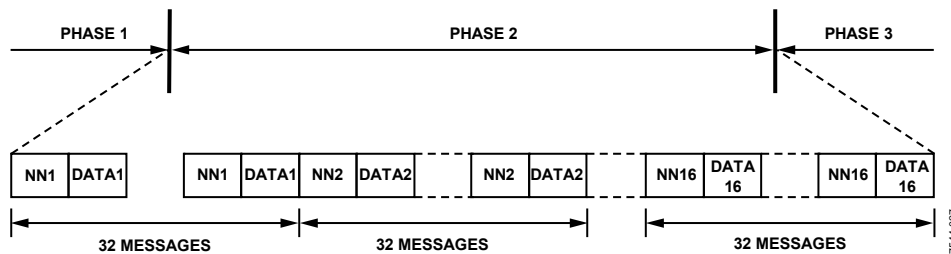

Figure 27. Mode 3 Device Data Transmission
In Phase 2 Mode 3, the 10-bit data codes, -512 (0x200) to -481 (0x21F), are used to transmit the device data. The data coding is shown in Table 34 and in Figure 27. One 4-bit nybble of the device data (encoded as one of 16 nybble codes) is transmitted in each 10-bit message. The number of the data nybble is identified by the preceding nybble number (NN) code as detailed in Table 33. This allows a total of $(16 \times 4) = 64$ unique bits of device data to be transmitted during Phase 2. Each message is repeated